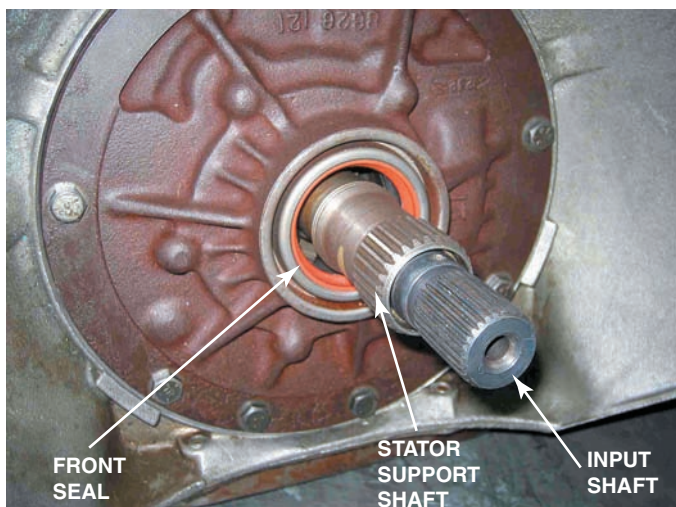

FIGURE 35-4 The internal splines inside the torque converter must be properly aligned with all of the splines of the automatic transmission.
- STEP 2** Rotate the torque converter while it is pushed onto the transmission shafts until the splines of all shafts are engaged in the torque converter. ● **SEE FIGURE 35-4.**